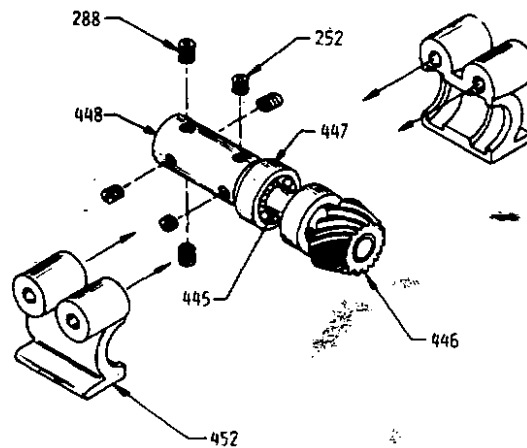

Figure 7
**STEP 7 TAIL GEAR DRIVE ASSEMBLY - see Figure 7**